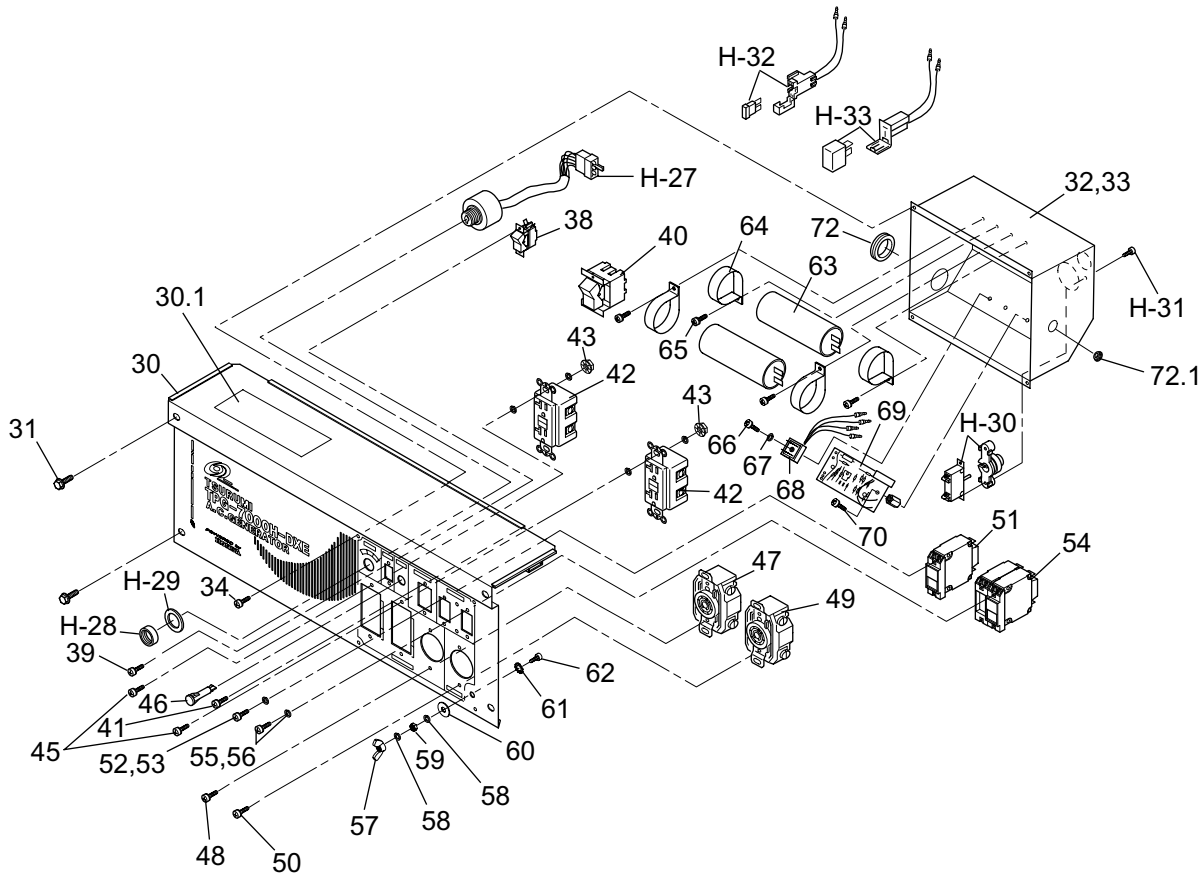
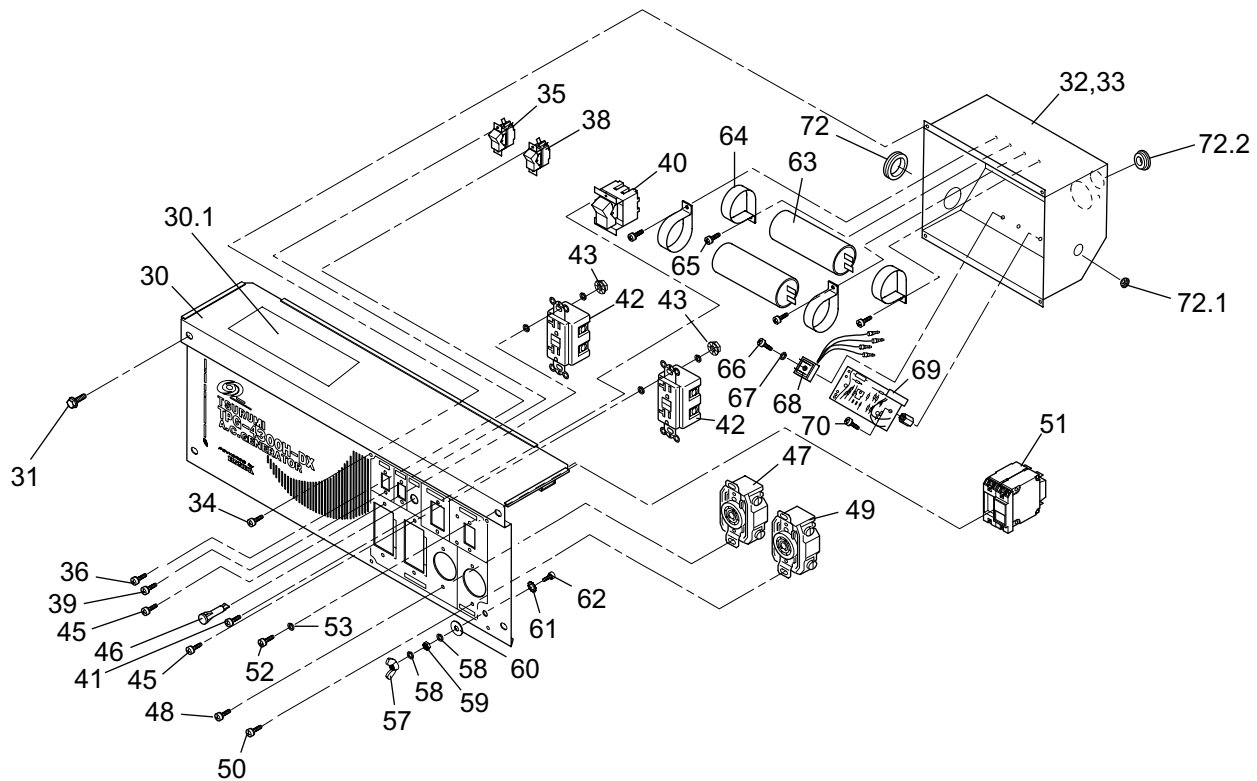

Figure 35: Front Panel and Control Box Components
Figure 36: Front Panel and Control Box Components
- To ease the replacement of components, drain and remove the fuel tank and remove the front panel and/or control box (32) from the frame.
- (a) Refer to Figure 35. Remove four screw and washer assemblies (34) to separate control box (32) from front panel (29).
- (b) Disconnect flexible tube (12) from rear cover (7).
- (c) Tag and disconnect generator wires. Pull generator wires free from the control box (32).
- (d) Remove four frame bolts (31) at the corners of the front panel (29). Separate the front panel (29) from the frame.
- (f) After replacing the panel-mounted component, connect generator and engine wires using the tags as a guide. Install control box (32) on front panel (29) and secure with screw and washer assemblies (34).
- (g) Install front panel (29) on frame and secure with four frame bolts (31).
- ### (2) Reset Pushbutton (TPG-7000H-DXE Only)
- (a) Refer to Figure 35. Remove front panel (29) and control box (32) (refer to **Removal/Installation of Front Panel and Control Box**).
- (f) Install front panel (29) and control box (32) (refer to **Removal/Installation of Front Panel and Control Box**).
- (3) Overload Protector (TPG-7000H-DXE)
- (d) Install front panel (29) and control box (32) (refer to **Removal/Installation of Front Panel and Control Box**).
- (4) DC Fuse (TPG-7000H-DXE)
- (5) Engine Start (Key) Switch (TPG-7000H-DXE)
- (a) Refer to Figure 35. Remove ring nut (H-28) and fiber washer (H-29). Pull switch (H-27) from backside of front panel (29).
- (c) Align notch in panel with the key on the switch. Install replacement switch (35) in back side of front panel (29).
- (6) Engine Switch (Models TPG-2900H-DX, TPG-4300H-DX and TPG-6000H-DX)
- (a) Refer to Figure 36. Remove front panel (29) and control box (32) (refer to **Removal/Installation of Front Panel and Control Box**).
- (c) Connect wiring and install replacement switch (35) in back of front panel (29). Secure with screw and washer assemblies (36).
- (7) Pilot Lamp (ALL MODELS)
- (b) Disconnect wire from pilot light (46). Squeeze inward on tab to release the pilot light (46) from the panel (30).
- (c) Install replacement pilot light (46) from front of panel. Install pilot light (46) until the tab snaps into place.
- (d) Connect the wire to the pilot light (46).
- (e) Install front panel (29) and control box (32) (refer to **Removal/Installation of Front Panel and Control Box**).
- (8) Circuit Breaker (51)
- (b) **For breaker (51)**, remove two screw and washer assemblies (52) and washers (53).
- (d) Connect wiring and install replacement breaker (51) in back of front panel (29). Secure with two screw and washer assemblies (52) and two washers (53).
- (9) Circuit Breaker (54)
- (a) **For breaker (54)**, remove four screw and washer assemblies (55) and washers (56).
- (b) Remove two screw and lock washer assemblies (39) from switch (38).